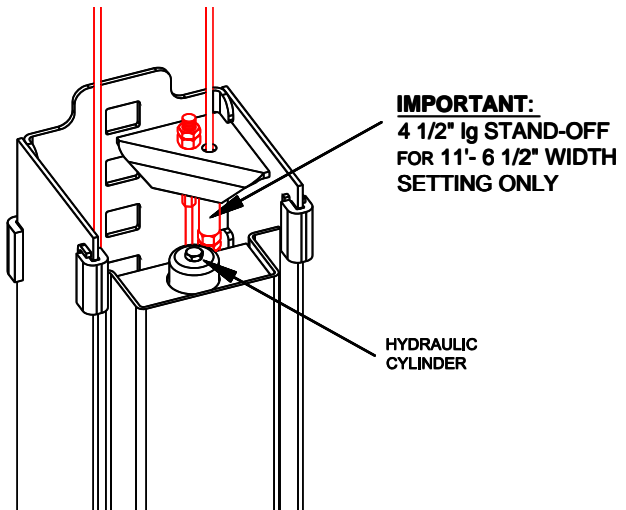

Fig 6a – Cable Assembly
- 15) Attach one end of synchronizing cable to carriage with the supplied nut and jam nut. See **Fig 6a & 6b** for proper attachment.
- 16) Route cable up and over sheave in overhead. Follow across to other sheave on opposite column. Route down through carriage to sheave in bottom of column. Route under sheave and up to cable attachment. Use **Fig 6a** for proper attachment.
Insure that the top of the hydraulic cylinder is out of the way but still retained in the opening of the top plate of the carriage as shown in Fig 6a.